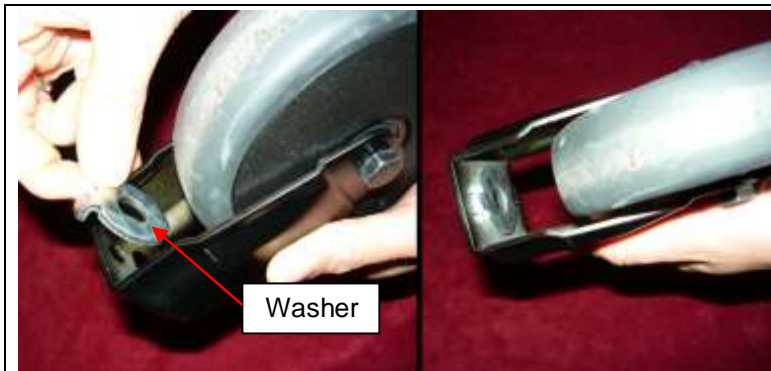

Figure 6: Place the washer in the outer holes leaving the central hole open for the screw
- **Place the washer inside the mounting of the front wheels (Figure 6).**